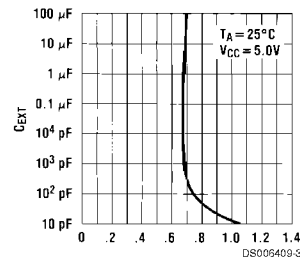

FIGURE 2.
4. The multiplicative factor K is plotted as a function of C_X for design considerations: (See Figure 2).